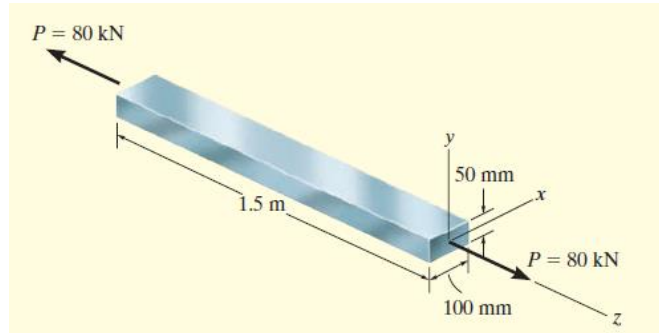

Fig. 6
6. A bar made of A-36 steel has the dimensions shown in Fig. 6. If an axial force of  $P = 80 \text{ kN}$  is applied to the bar, determine the change in its length and the change in the dimensions of its cross section after applying the load. The material behaves elastically. [  $\delta_z = 120 \text{ } \mu\text{m}$ ;  $\delta_x = -2.56 \text{ } \mu\text{m}$ ;  $\delta_y = -1.28 \text{ } \mu\text{m}$  ]